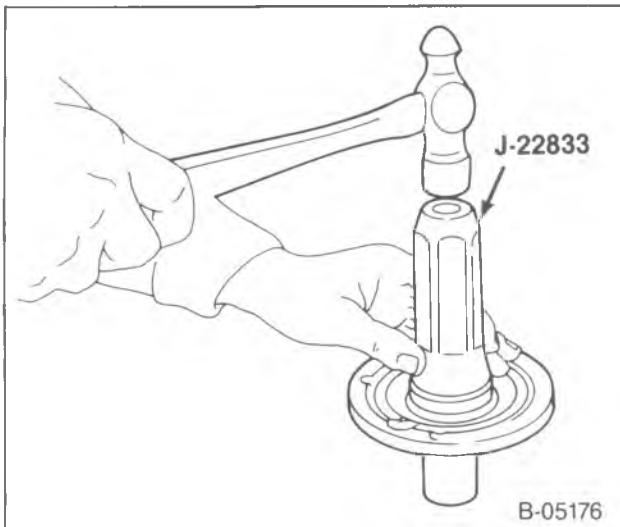

Figure 49—Installing the Drive Gear Bearing Retainer Oil Seal
- Seal (222), using J-22833. The lip of the seal goes toward the installing tool, (figure 49).